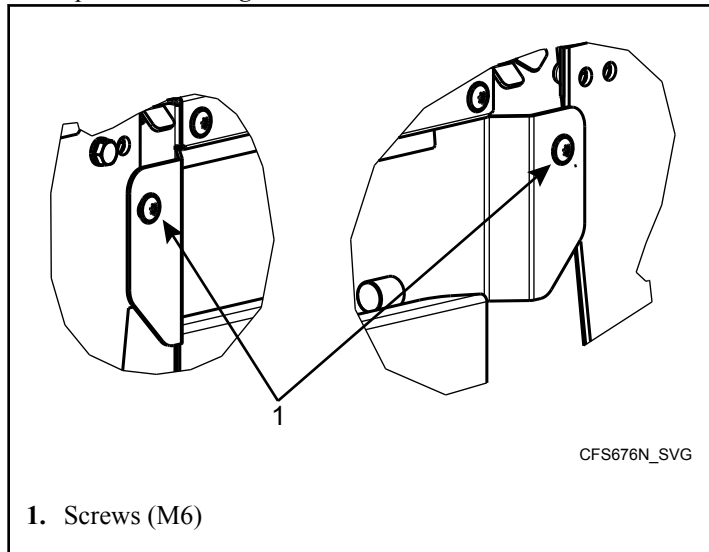

Figure 58
3. Remove the two screws (M6) that attach the filter box. Refer to position 1 of *Figure 58*.